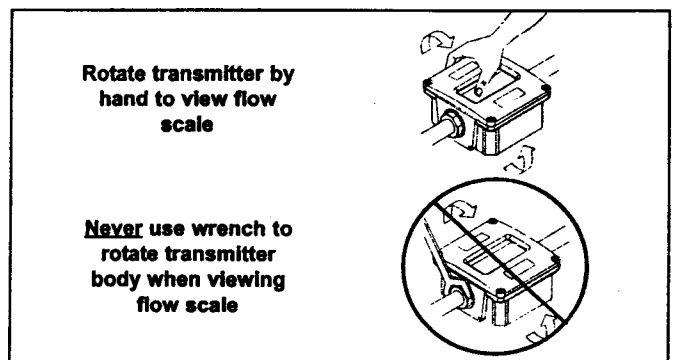

Figure 7. Rotating Transmitter
6. After installation, rotate transmitter by hand to view flow scale. See Figure 7.